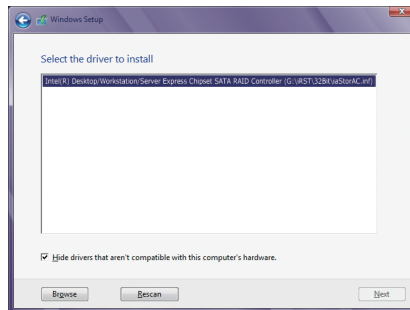

Figure 1
When a screen as shown in Figure 1 appears, select **Intel(R) Desktop/Workstation/Server Express Chipset SATA RAID Controller (G:\IRST\32Bit\UpStorAC.inf)** and click **Next** to load the driver and continue the OS installation